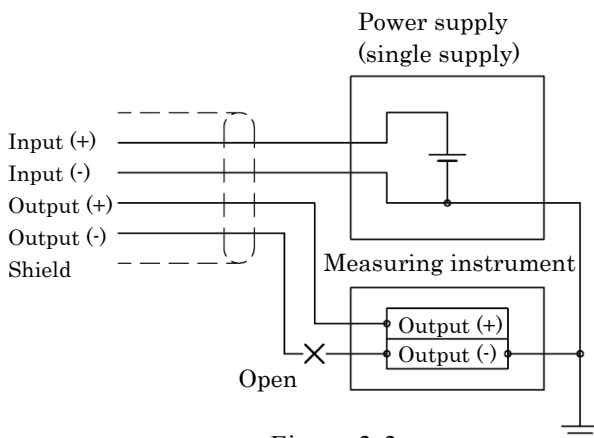

Figure 3-3
3.6 Do not connect the C: Input (-) to B: Output (-) when you use the single supply as the bridge excitation. At this time, open the B: OUTPUT (-) as illustrated below. In addition, the no-load output indicates the middle value of the power supply voltage. (Figure 3-3)